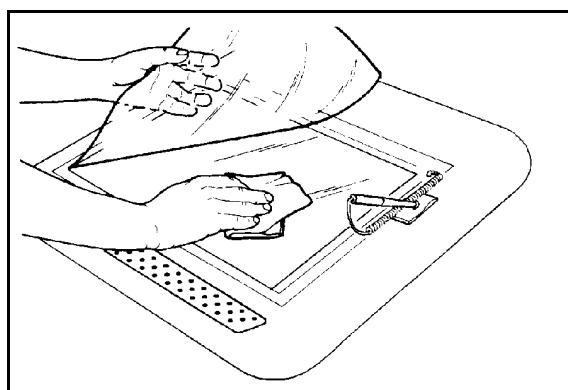

Figure 5: Cleaning the Edit Pad
- 2 Lift the Clear Plastic Overlay and wipe the top surface of the Edit Pad until it is clean and dry, as illustrated in Figure 5.